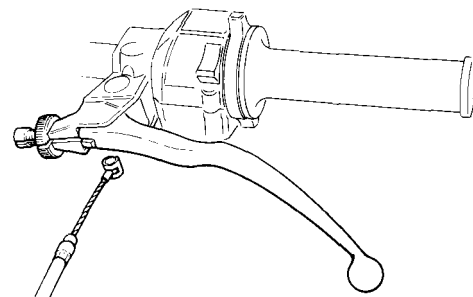

Figure 56 Removal of Clutch Cable at Handlebars.
2. Slacken the adjuster at the handlebar end and remove the cable from the lever assembly. (See Fig. 56)